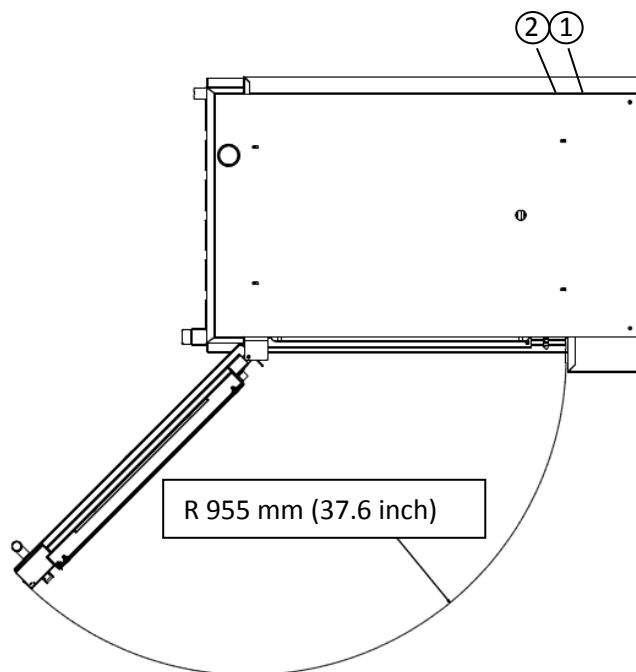

Figure 4
- A water connection with an aerated valve with a $\frac{3}{4}$ inch thread connection, with a minimum continuous flow rate of 15 litres / min, must be available near the unit. The water pressure must be between 200 en 500 kPa (2 and 5 bar), preferably at least 300kPa (3 bar). Use connection ① for filtered water and connection ② for non-filtered water (see Figure 4). Refer to the Installation Manual.